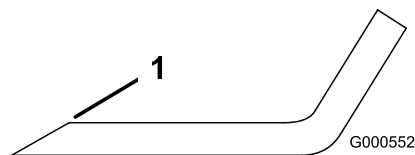

Figure 70
1. Use a file to sharpen the cutting edge at both ends of the blade (Figure 70).
Note: If the blade is not balanced, file some metal off the end of the sail area only (Figure 70).